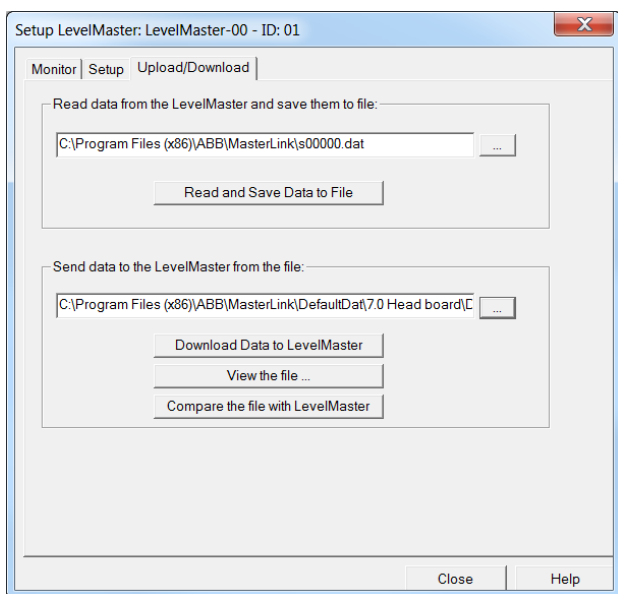

Figure 7: Downloading correct configuration to the LevelMaster
5. Under Send Data to the LevelMaster from file, verify that the file path displays correctly (Figure 7).